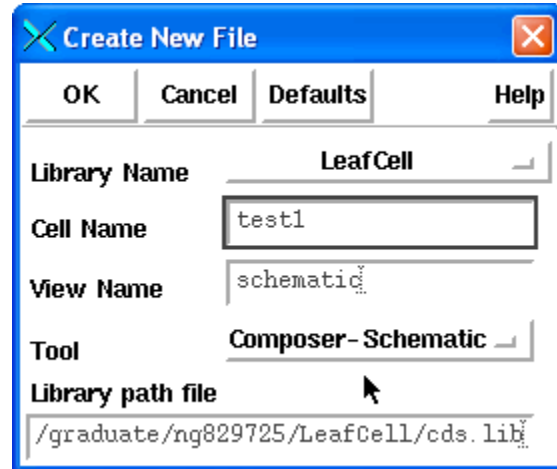

Figure 150: Creating the test1 schematic to extract k'_n .
1. Create a test schematic called *test1* (Figure 150.)